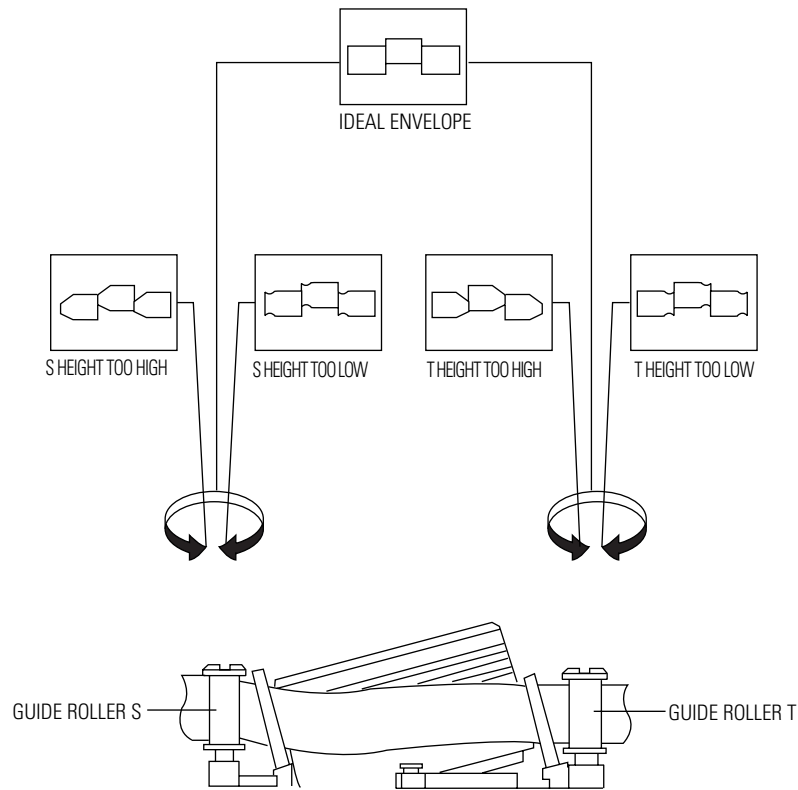

Fig. 3-13 Guide Roller S, T Height Adjustment
- 8) Turn the guide roller heads with a flat head () driver to obtain a flat video RF envelope as shown in Fig. 3-13.